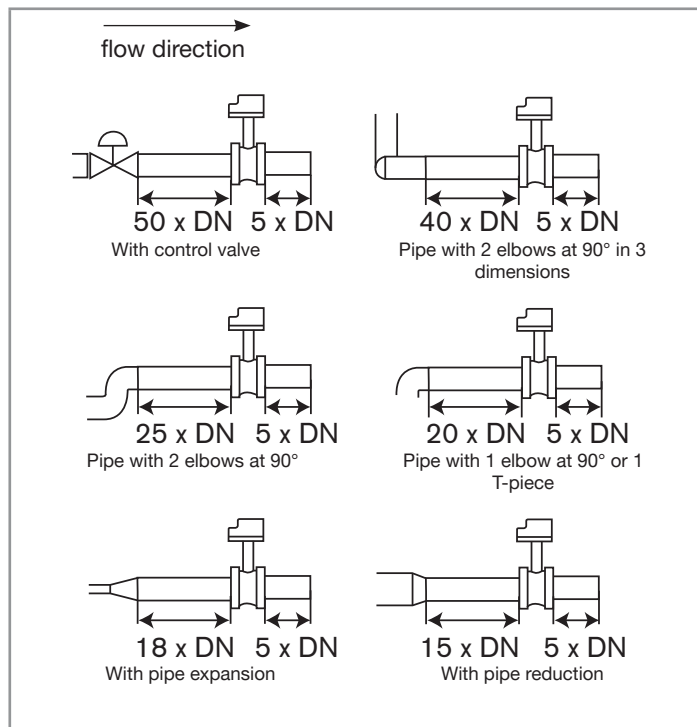

Fig. 4: Upstream and downstream distances depending on the design of the pipes.
- Install the device on the pipe in such a way that the upstream and downstream distances are respected according to the design of the pipes, refer to standard EN ISO 5167-1 and Fig. 4: